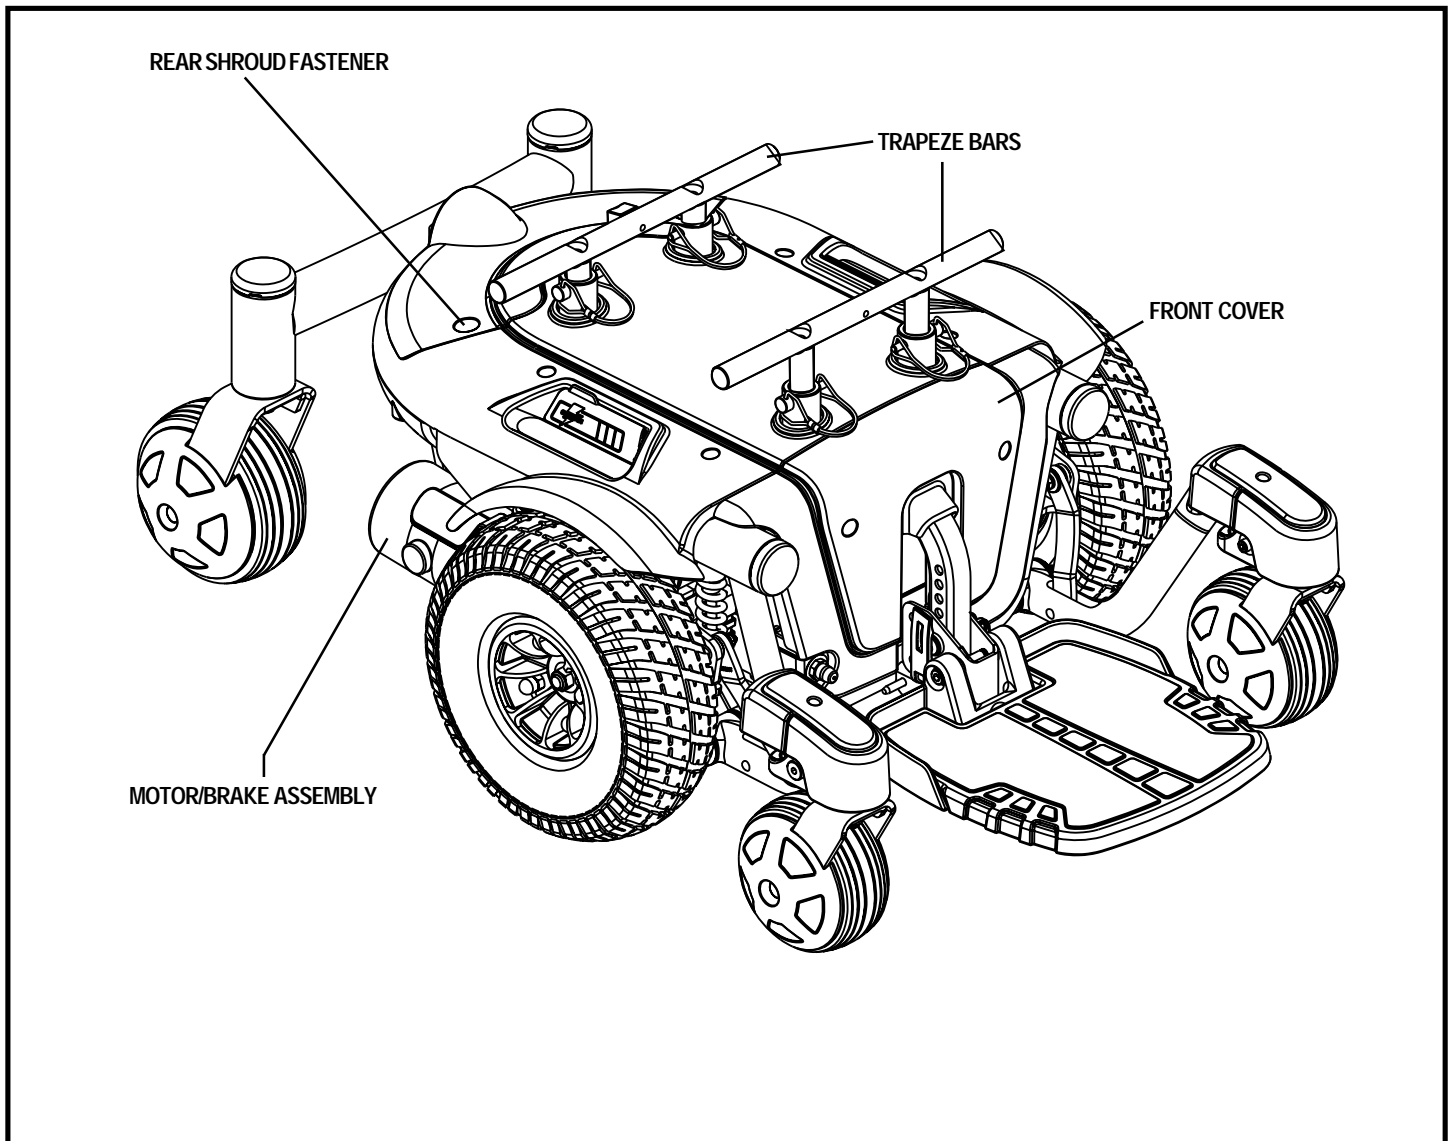

Figure 6. The Quantum 610 Series Power Base
5. Loosen the rear shroud fasteners and remove the rear shroud. See figure 6.
7. Reinstall the rear shroud and tighten the rear shroud fasteners. See figure 6.
2. Loosen the rear shroud fasteners and remove the rear shroud. See figure 6.